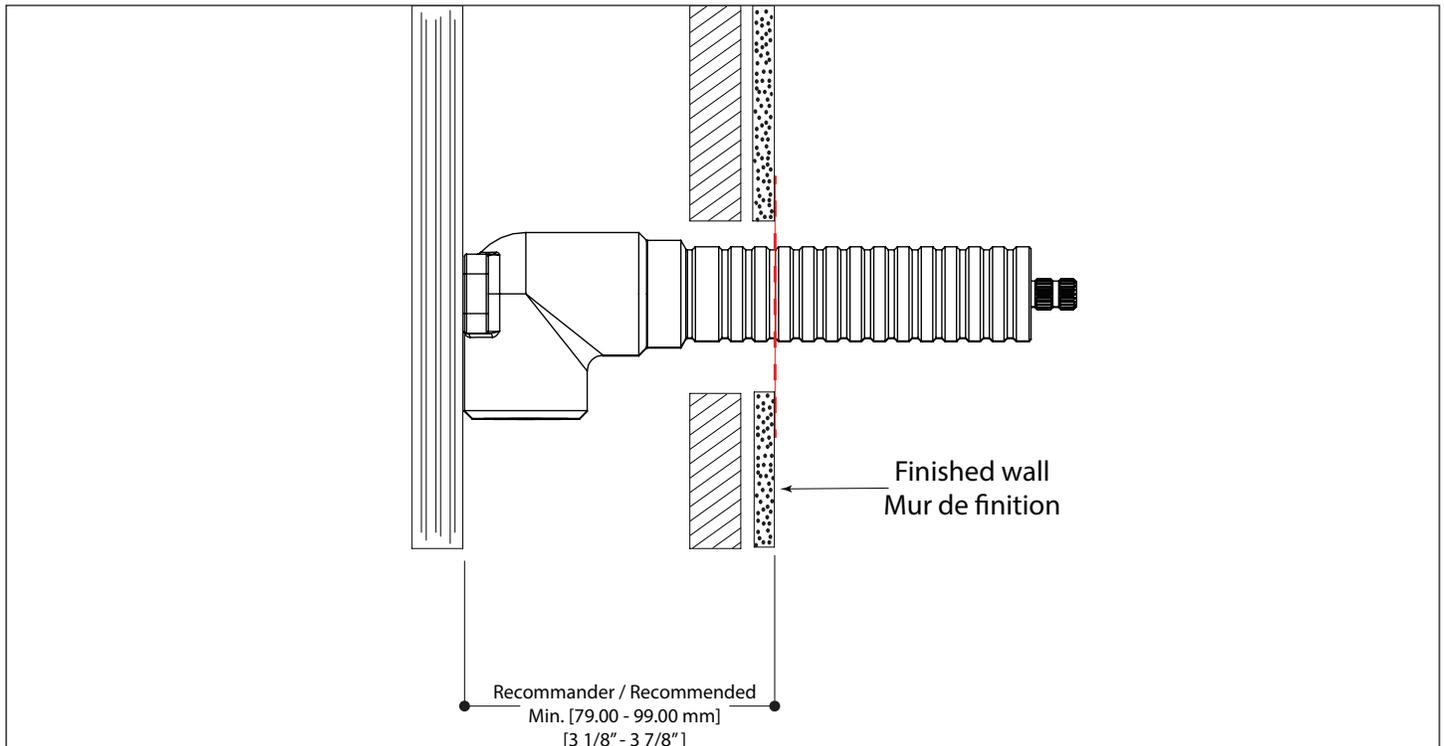

Fig.1
Determine the valve location. For an optimal installation, position the valve between 2x4 studs, with plywood backing. Fix with wood screws (not supplied) (Fig.1).
**!** TO ENSURE PROPER INSTALLATION OF THE VALVE INSIDE THE WALL, IT IS VERY IMPORTANT TO FOLLOW THE RECOMMENDED DEPTH AS INDICATED IN THE ILLUSTRATION (Fig.1).
Déterminer la position de la valve dans le mur. Pour une installation optimale, placer la valve entre 2 montants de 2x4, solidement fixé sur un support en contre-plaqué, (vis à bois non fournies) (Fig.1).
**!** AFIN D'OBTENIR UNE INSTALLATION CORRECTE DE LA VALVE, IL EST IMPORTANT DE RESPECTER LA PROFONDEUR SUGGÉRÉE TEL QU'ILLUSTRÉ (Fig.1).